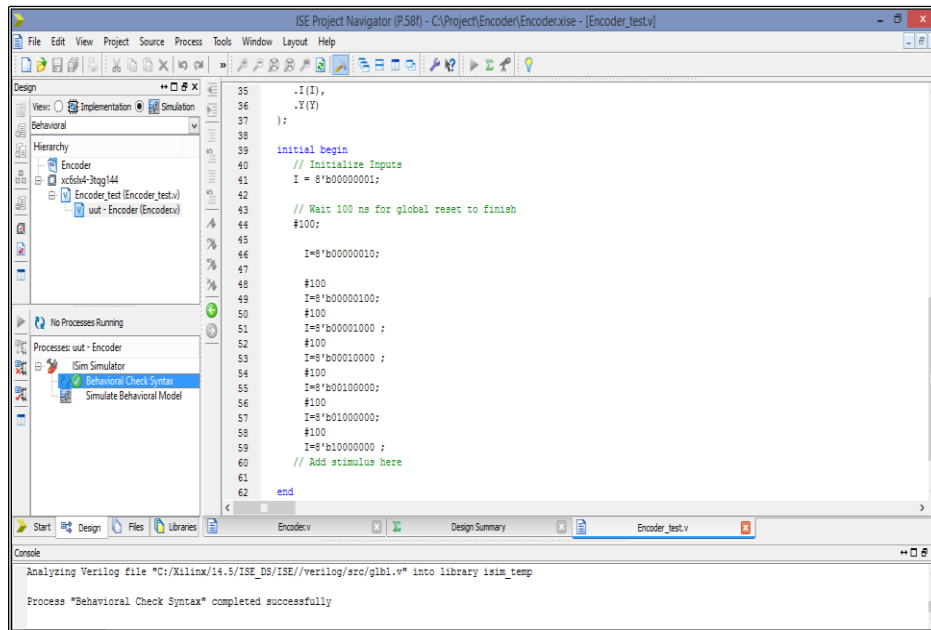

Fig 6.6: Encoder Testbench
- The ISE project navigator will generate template for testbench. The ISE tool detects the inputs/outputs from the source file and creates a template instantiating the original source module and provides initial values. You have to provide different combinations of data line I (Fig 6.6). Save the test bench.